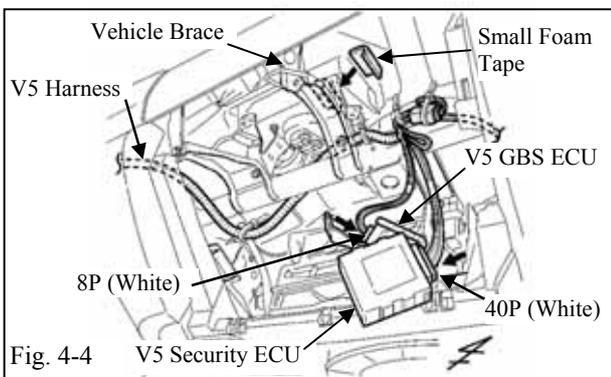

Fig. 4-4
- (e) Connect the V5 harness' white 40P connector and white 8P connector to the V5 security ECU and V5 GBS ECU. (Fig. 4-4)
- (1) Verify the connectors are plugged in securely.
- (f) Apply one small foam tape strip to the vehicle brace as shown. (Fig. 4-4)